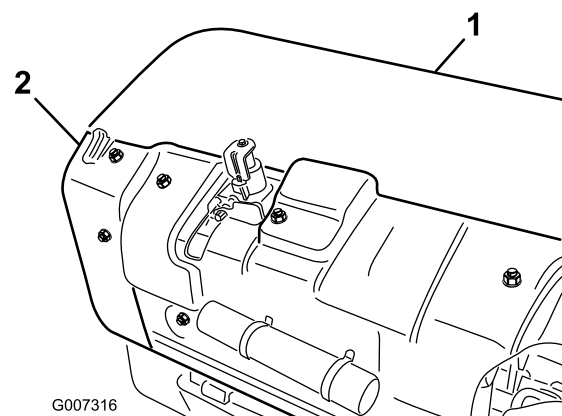

Figure 32
1. Remove the rear coring head cover (Figure 32).
2. Remove the pulley shield mounting bolts and remove the shield (Figure 32).